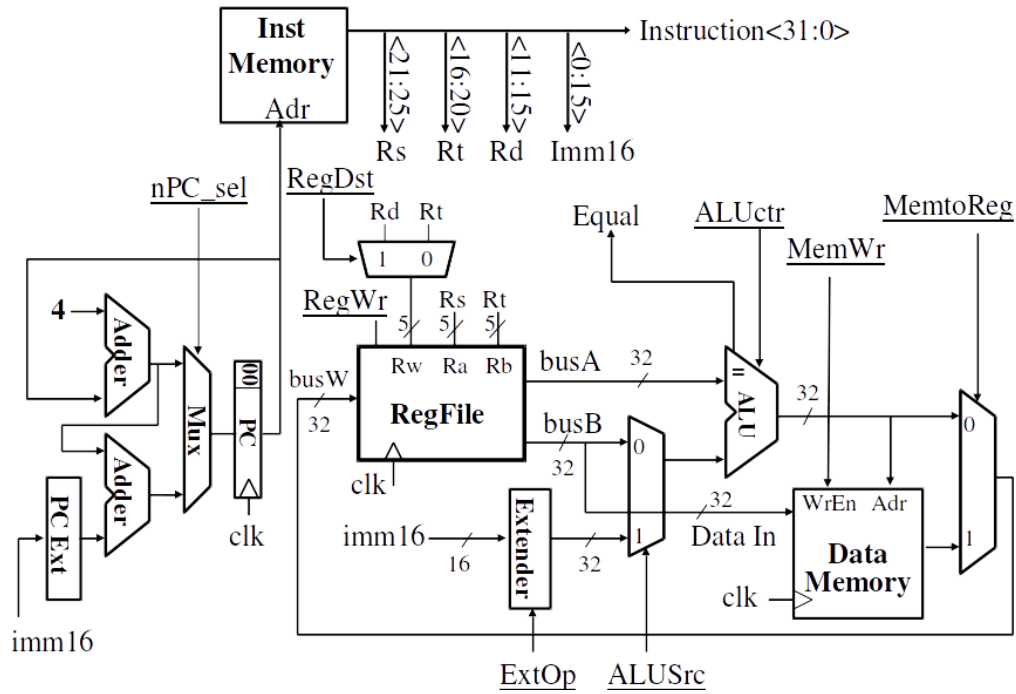

Figure 1: MIPS datapath with control signals
**Exercise 3. [16 marks]** Consider the MIPS datapath with control signals as presented in Figure 1. For each of the below instructions, give the values of the control signals required to execute that instruction. You may use “x” to denote a “don’t care” value. You may use the semantic meaning for each control signal (e.g. ALUctr = “add”).